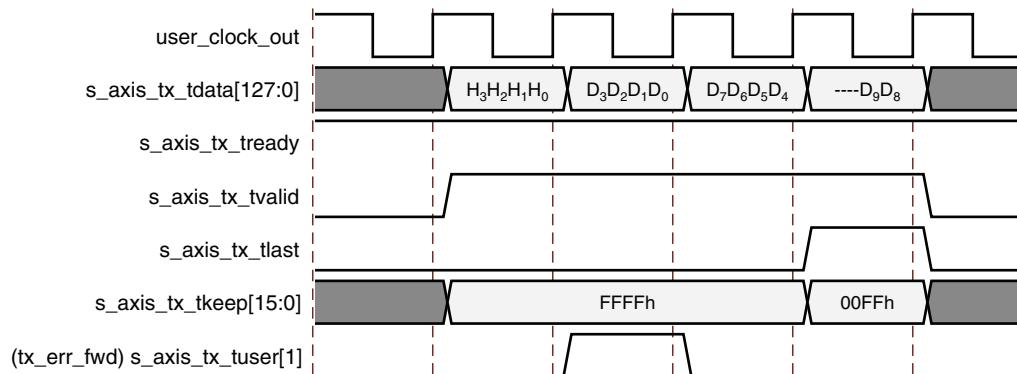

Figure 3-39: Packet Data Poisoning on the Transmit Interface
- Assert s\_axis\_tx\_tuser[1] (tx\_err\_fwd) for at least one valid data transfer cycle any time during the packet transmission, as shown in Figure 3-39. This causes the core to set EP = 1 in the TLP header when it transmits the packet onto the PCI Express fabric. This mechanism can be used if the user application does not know whether a packet could be poisoned at the start of packet transmission. Use of tx\_err\_fwd is not supported for packets when s\_axis\_tx\_tuser[2] (tx\_str) is asserted (streamed transmit packets). In streaming mode, you can optionally discontinue the packet if it becomes corrupted. See Discontinuing Transmission of Transaction by Source for details on discontinuing packets.